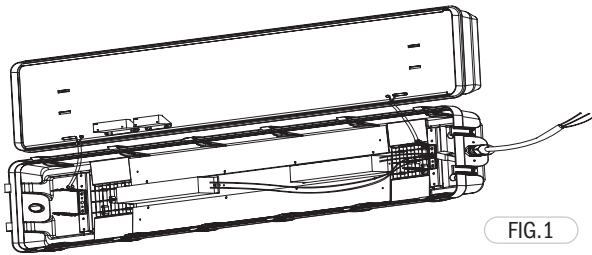

FIG.1
4. Link the cord to the driver's input, then reattach both the LED module board and the lens to the fixture (Figure 1)